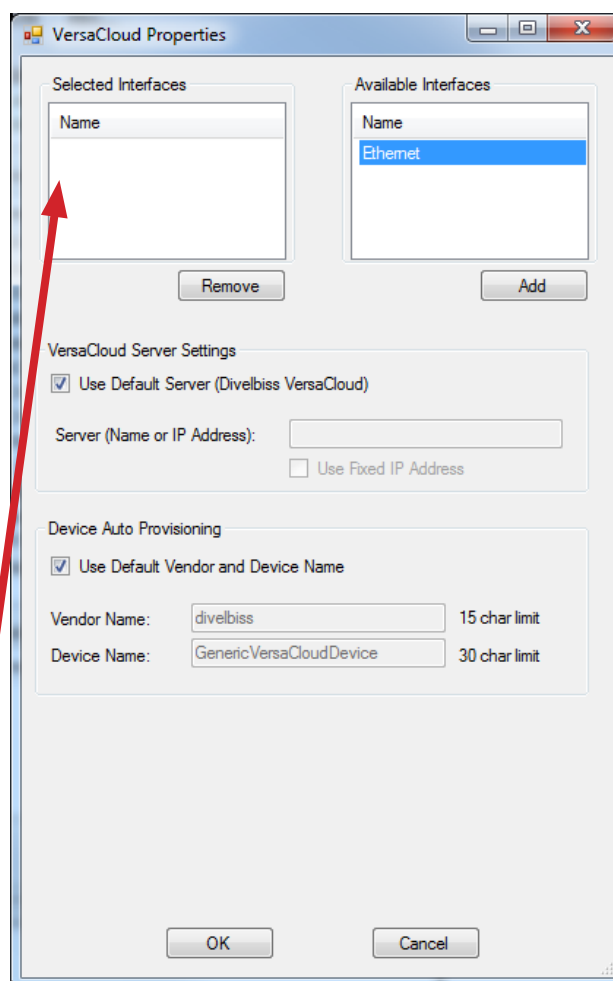

Figure 2-51 - VersaCloud Properties
4. Click **OK**. The **VersaCloud Properties** Window will open. Refer to Figure 2-51. This window is used to select the interface (communications method) between the VB-2XXX and the VersaCloud M2M Portal (Cloud server). The **Available Interfaces Pane** and the **Selected Interfaces Pane** are used for the selection.